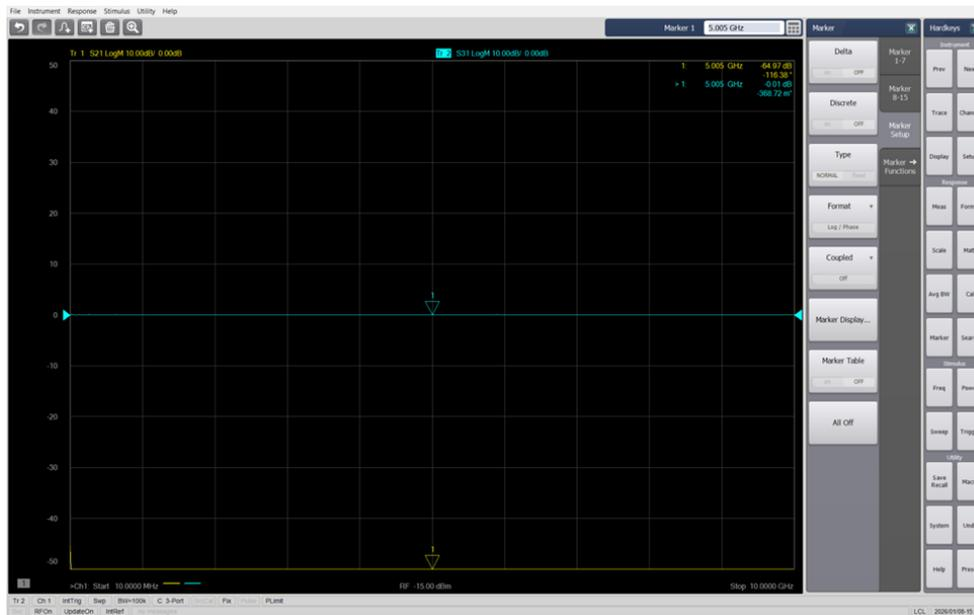

Figure 14: S31 measurement to verify the AFR fixture setup
4. Verify that you can measure S31 through the thru trace as shown in Figure 14.